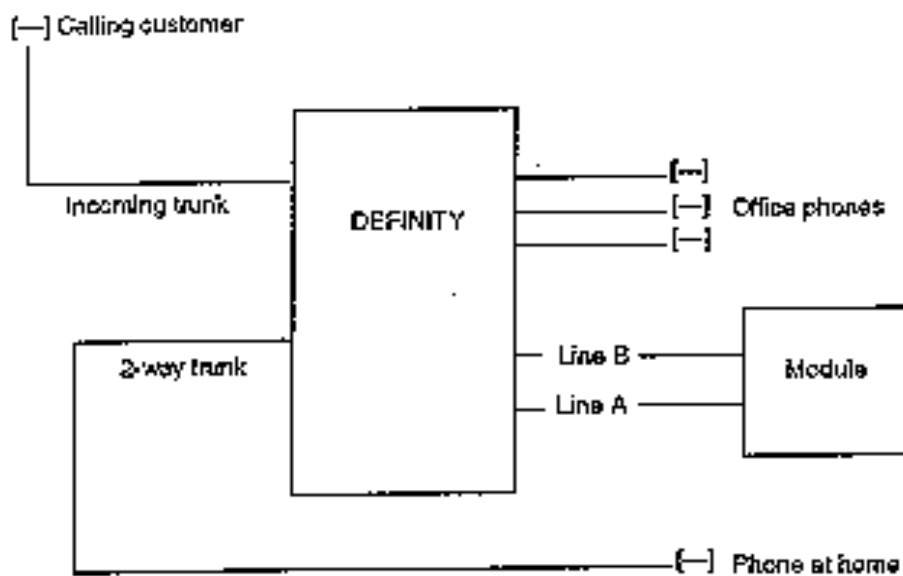
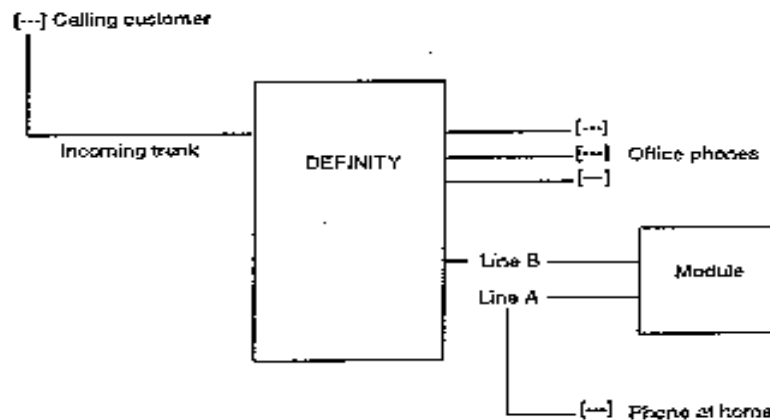

Figure 1-2. Loop Configuration
Figure 1-3. Traverse Configuration
In Figure 1-2, "Loop Configuration", and Figure 1-3, "Traverse Configuration", below, lines A and B have these properties:
1. Set the front panel switch to PROGRAM until the unlabeled green power light shown in Figure 1-3, below, flashes quickly. The switch is the toggle type and has three positions: